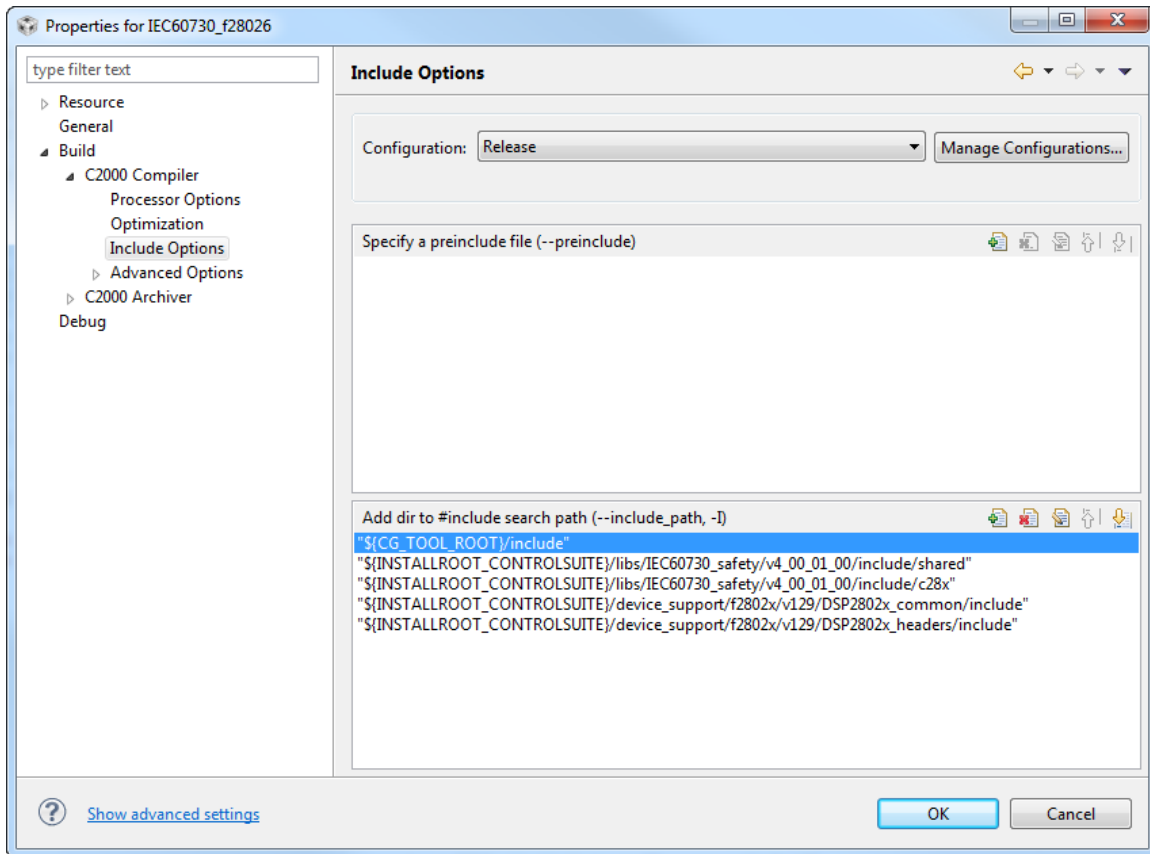

Figure G.2: Adding Header File Directory
7. Add the search path to the version header files required by the source files. Click on **Projects** menu > click on **Properties** > expand to **Build** > **C2000 Compiler** > **Include Options**. Add the following in the **Add dir to #include search path** window. See figure G.2. For example for this library build v129 of the header files and v4_00_01_00 of the safety library was used.